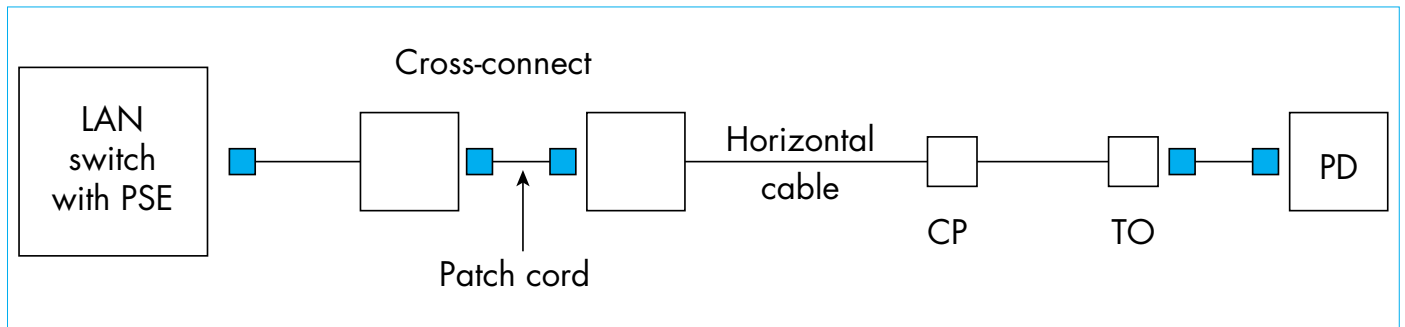

Figure 2: Power supplied from LAN equipment with end-span PSE
The PoE system consists of the power sourcing equipment (PSE), which supplies the power, and the powered device (PD), which receives the power. PSEs are typically designed as end-span or mid-span power supplies. The end-span PSE is typically built into an Ethernet switch port, with an estimated 100 million PoE-enabled ports shipping annually¹. As the name suggests, the end-span PSE, illustrated in Figure 2, resides at the LAN endpoint opposite the PD.